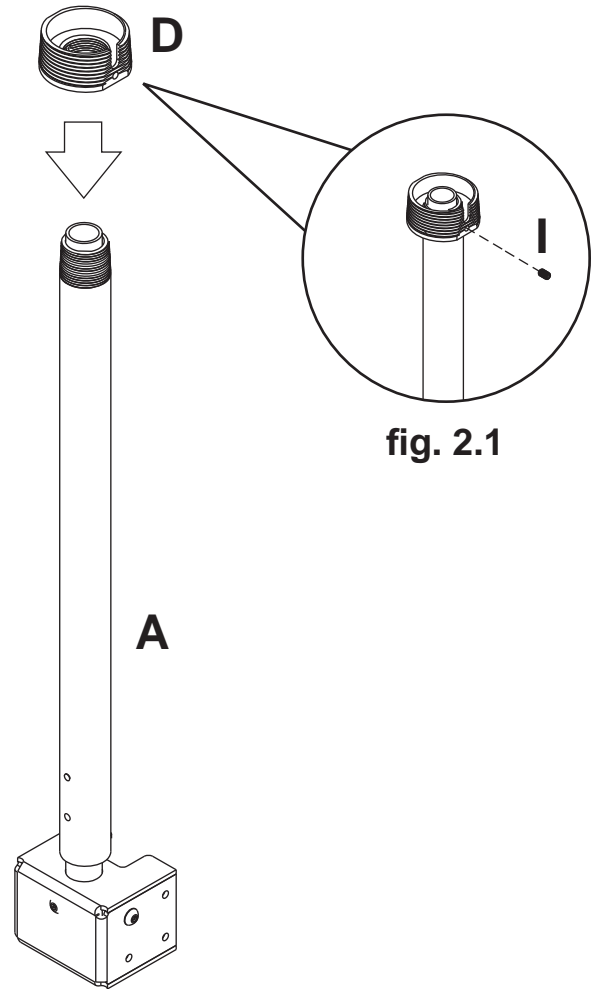

fig. 2.1
Thread reducer (D) onto tube assembly (A) until tight. Insert set screw (I) into reducer as shown in figure 2.1. Tighten screw using hex wrench (J). **Note:** Set screw (I) is used to jam against the threads of tube assembly to prevent any excess movement.